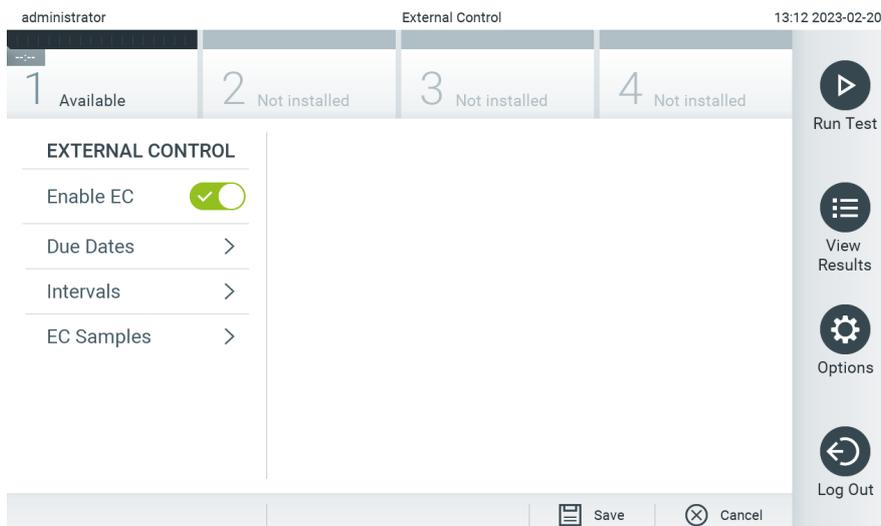

Figure 76. The External Control screen.
2. Press the **Enable EC** toggle button to activate the feature (Figure 76).